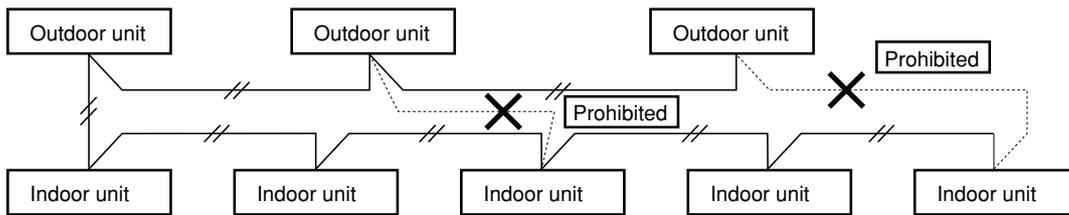

Fig. 5-1
(2) Do not install the inter-unit control wiring in a way that forms a loop. (Fig. 5-1)